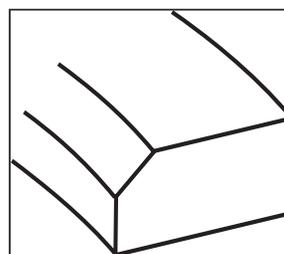

Figure 1
- A- Top compression ring has a gray finish that is relatively light in color, and may or may not have a slight bevel along the inner edge. **See Figure 1.** It generally has no dot or other identifying mark. The light color can best be recognized by comparing compression rings to each other beneath a good light. Install light colored ring in top groove, bevel up. If there is no bevel, ring can be installed either side up.
- 7- If ring has no dot but does have inside diameter bevel, bevel goes to top of piston. **See Figure 1** below.